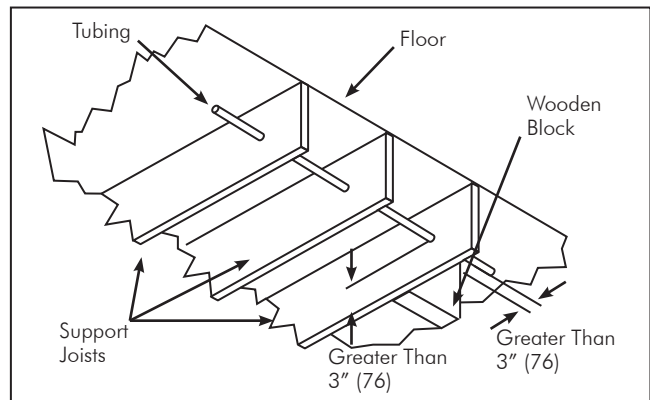

FIG. 4-16 No Shielding Required for Tubing Running Through Joists Greater than 3" (76) from a Potential Nailing Surface
- Where the tubing is supported more than 3" (76) from any outside edge of a stud, joist, plate, etc. or wall surface (see **FIG 4-16**)
- Where any non-restrained tubing can be displaced from the direction of potential penetration at least 3" (76)